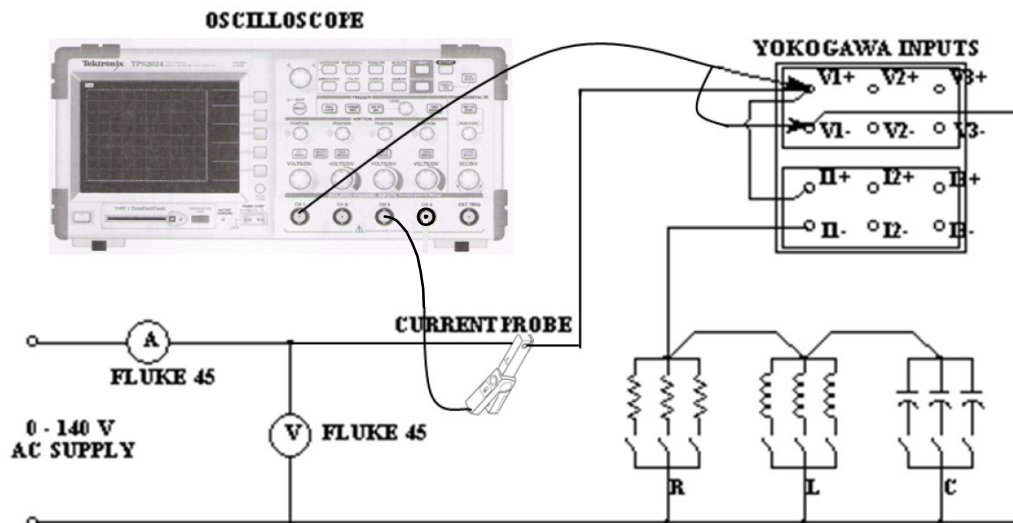

Figure 5 - Connections for Power Measurements
1.3 Figure 5 shows the arrangement you will be working with. For each of the four specified load combinations calculate  $I$ ,  $P$ ,  $Q$ ,  $S$  and the power factor, when the supply voltage is maintained at 120 V, 60 Hz. Complete the calc. columns (predictions) in Table 1.
2.3 Construct the circuit shown in Figure 5 with a supply voltage of 120 V. This voltage should be maintained fixed throughout the experiment, since it is the control variable.
2.6 Modify Figure 5 to include a reactive power compensating circuit (shunt capacitor banks) to give a source power factor of 0.98 lagging. Verify the adequacy of your design experimentally by recording the values of real power, reactive power, and the power factor.